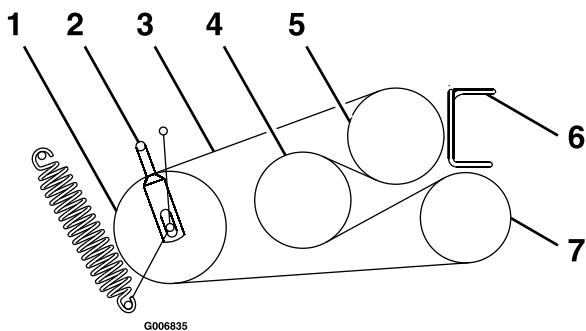

Figure 48
6. Loosen belt guides **A** and **B** (Figure 48).
8. Route the new belts onto the pulleys as shown in Figure 48.